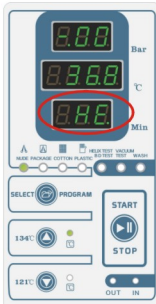

Fig. 5.4-1
(1) **Heating coil preheating stage:** press the button “Select program” select the program the instruments which need be sterilization. then press the button “START/STOP” , the “operation display window” show “HE” , the “pressure display window” show “-.0” , the “temperature display window” show “temperature in chamber” . (Fig.5.4-1)